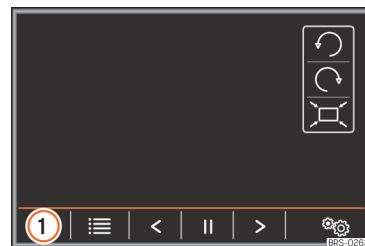

Fig. 212 Images main menu.
- Press the »» **Fig. 212 ①** function button to select the source where the picture files in question are located.